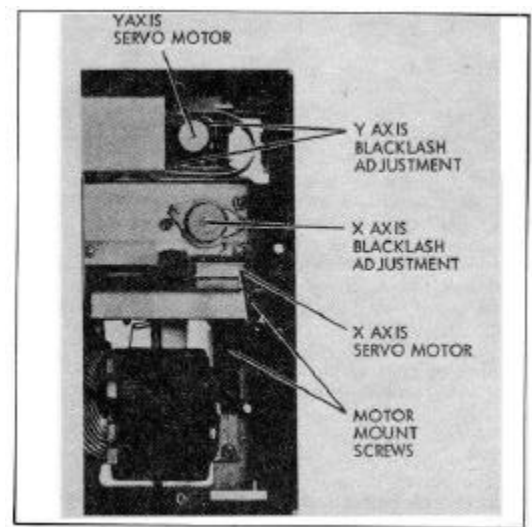

FIGURE 5-9. SERVO MOTOR MAINTENANCE AND BACKLASH ADJUSTMENTS
- e. Using Phillips screwdriver, remove 2 screws mounting motor. See Figure 5-9.